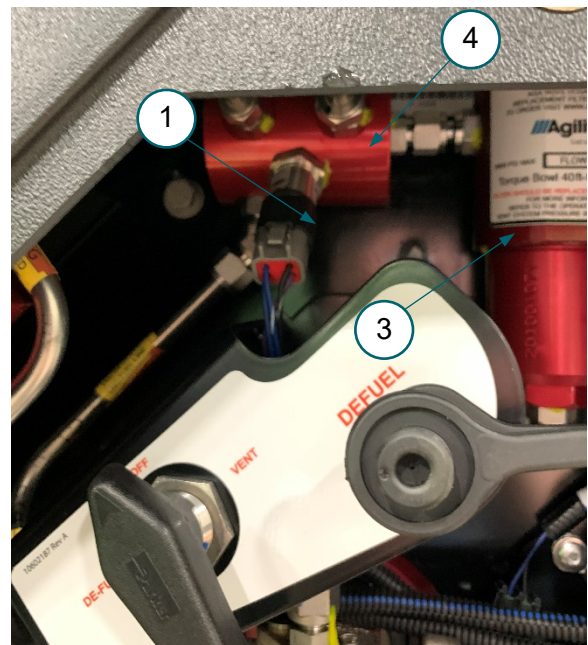

FIGURE 2-17b. Pressure transducer locations in box FMM, ProCab® BTC, ProRail® Gen 5 SM fuel systems.
Depending upon system design, the pressure / temperature transducer may be located on a manifold or the Manifilter [high-pressure (HP) filter]. **FIGURE 2-17b**